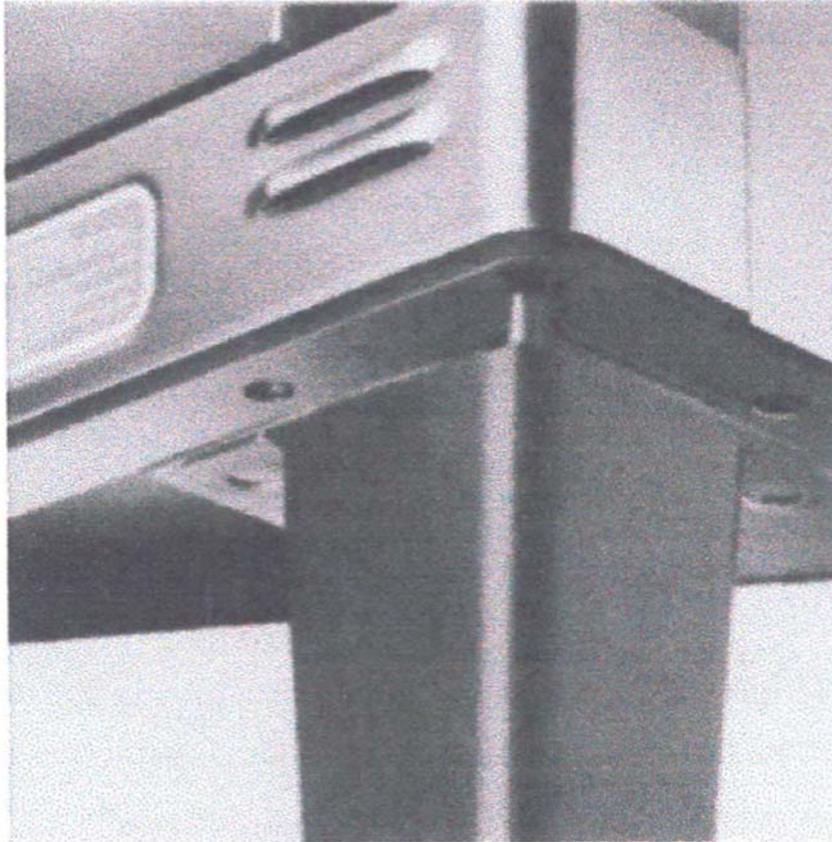

Figure 8-4. Leg Attachment - Single Section
1. With the oven lying on its back hold the front leg with both hands and align the threaded stud in the leg with the nut located inside each bottom front corner of the oven frame as indicated in Figure 8-4. Turn the leg clockwise and tighten the leg to the nearest full turn.
1. Begin by laying the oven on it's back and installing the front Ship's Deck Legs. See Figure 8-6. Attach the legs as follows: Align the two leg plate holes in each leg with those in the oven's bottom and secure the leg using two 1/2-inch bolts similar to the leg shown in Figure 8-4.